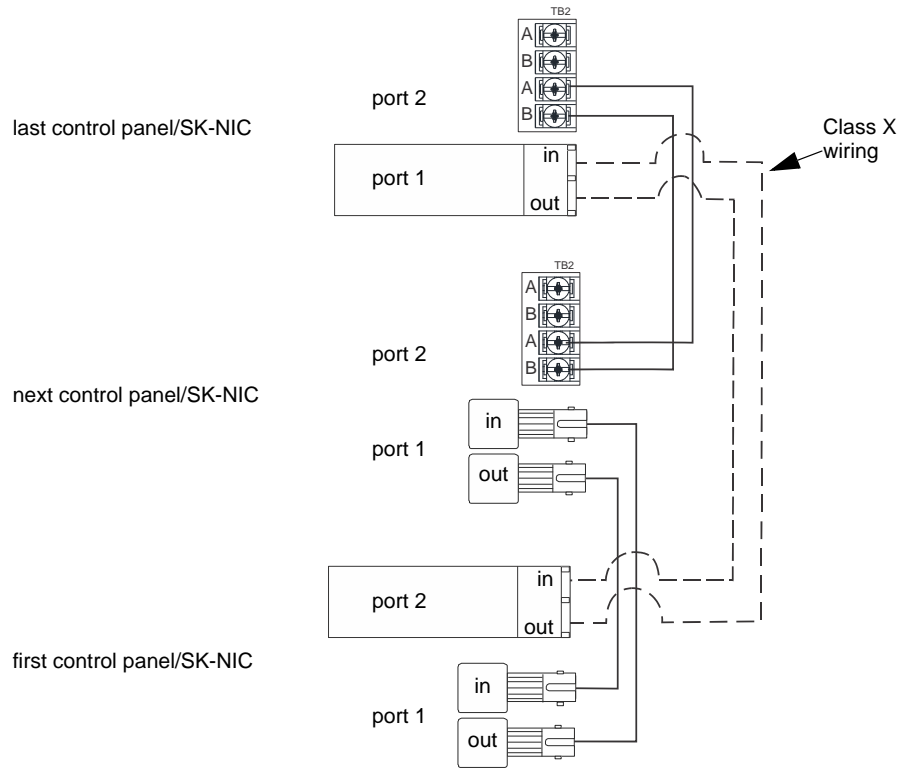

Figure 5.9 Twisted-Pair and Fiber-Optic Combination Wiring Example
- Based on the type of data medium chosen, run the twisted pair wiring/fiber-optic cable to the next SK-NIC using a Class B or Class X wiring method. A combination of both medium types can be used. See Figure 5.6 through Figure 5.9 for SK-NIC wiring examples.
A mixture of fiber-optic cable and twisted-pair wiring between multiple panels is shown in Figure 5.9. Class X cabling is shown with a dotted line.